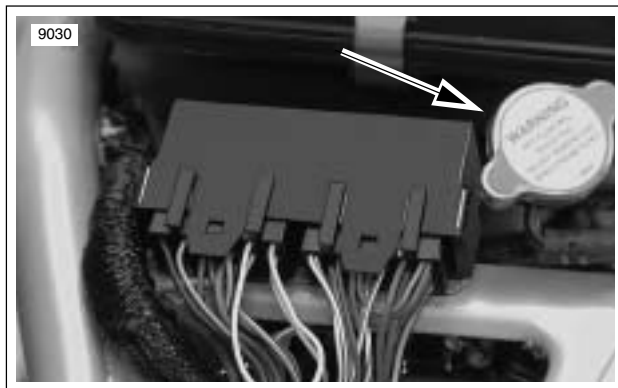

Figure 6-5. Pressure Cap
- See Figure 6-5. The pressure cap is located beneath seat behind the air box. Normally the pressure cap does not need to be removed. Coolant level can be checked at the expansion tank located on right side behind steering head. Coolant can be added at the expansion tank if level is low. To verify that the coolant system has been filled perform the check following these notes.
1. See Figure 6-5. Remove pressure cap.